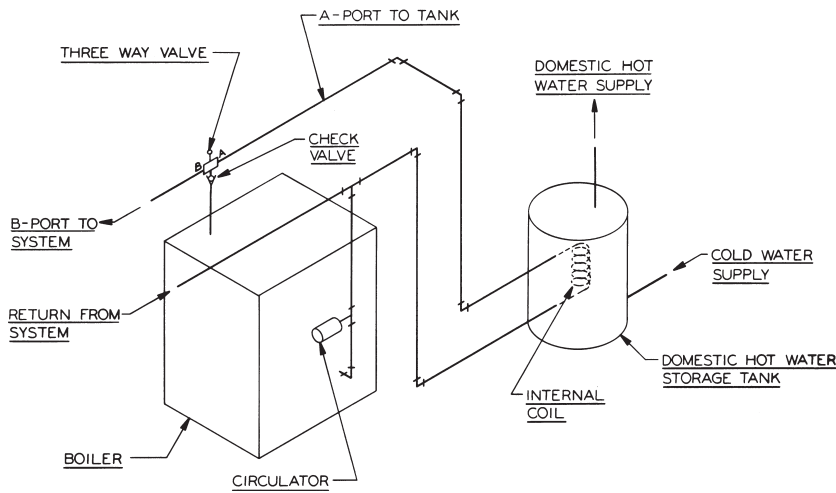

Figure 3.6: Piping with Peerless Indirect Water Tank
5. If using a Partner indirect fired water heater or other, see Figure 3.6 for typical piping. Also refer to additional instructions supplied with the Partner.